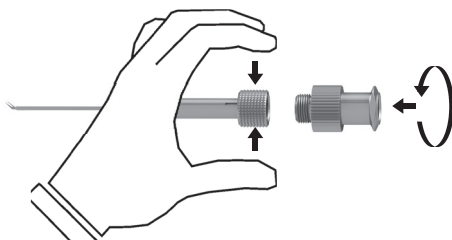

Fig. 3
- Assemble the cleaning adapter G-39007 acc. fig. 3.